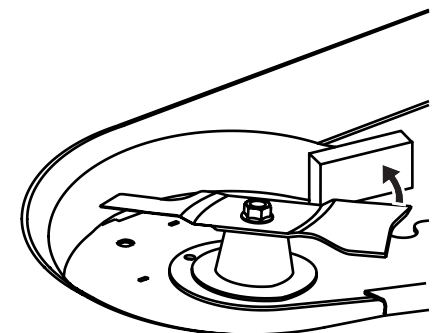

Figure 4-21
- Secure the blade from turning counter clockwise during service by placing a block of wood between the blade and the deck housing, see Figure 4-21, or wrap a rag around around one end of the blade and grasp the blade firmly.